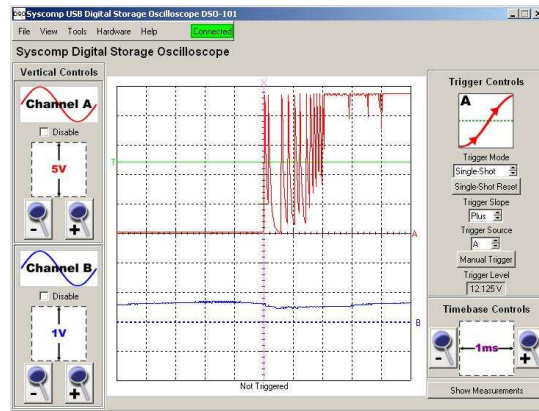

Figure 3: Contact Bounce, Relay Closure
- mechanical switch contact bounce [12], see figure 3